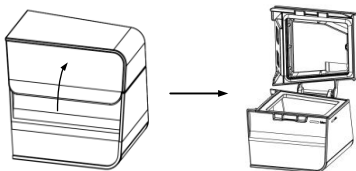
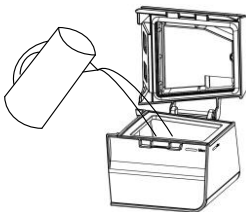

Fig. 13-2
Fig. 13-3
(1) Open the cap, as shown in Fig. 13-2, and fill the water chamber with approximately 360 ml of water, as shown in Fig. 13-3. Make sure that the water does not exceed the maximum water level line.